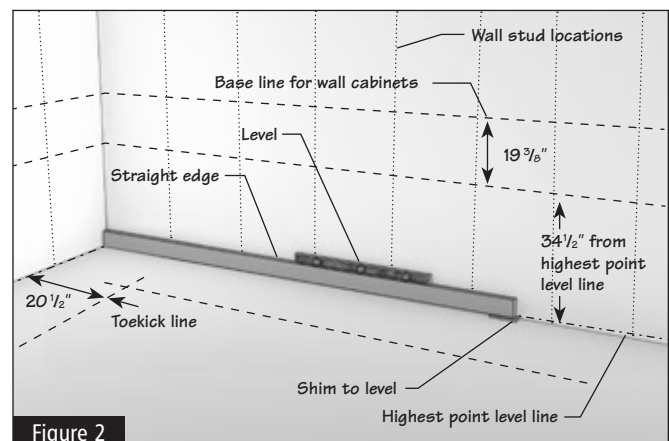

Figure 2
- 1.2** Measure up from the high point $34\frac{1}{2}$ " and draw a level line across the wall to establish the top of the base cabinets. If installing cabinets before your flooring, be sure to allow for the thickness of the material you plan to use. (Figure 2)
- 1.3** Then measure up from there another $19\frac{3}{8}$ ". This will be the baseline for the wall cabinets. (When you are finished, the wall cabinets will sit at $53\frac{7}{8}$ " above the high spot in the floor). (Figure 2) Please refer to your design elevations to verify dimensions specific to your layout